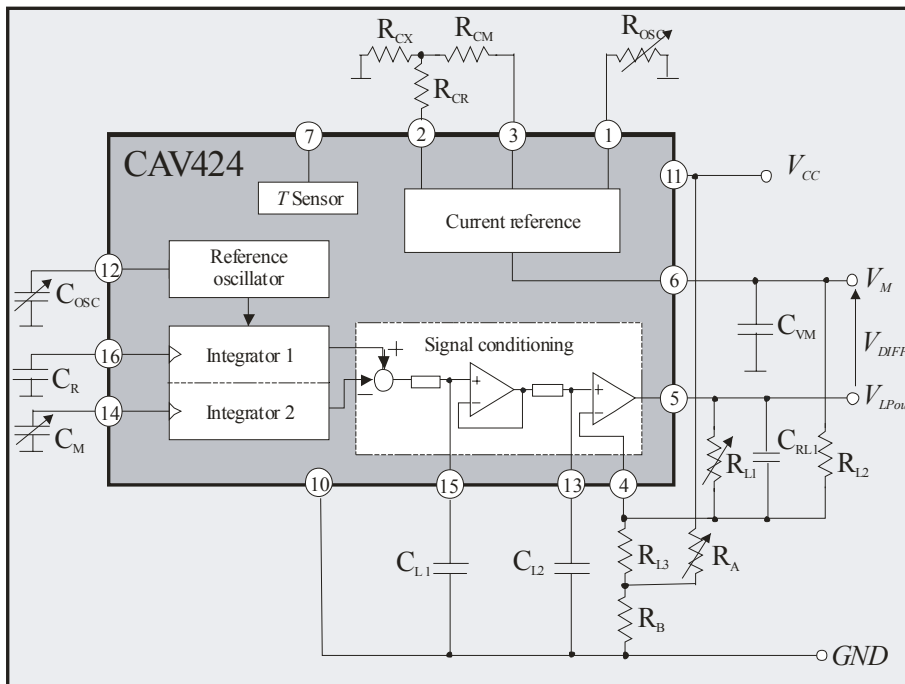

Figure 7: Functional diagram for CAV424 (with charging currents I_{CM} and I_{CR} constant)
* The equations apply to $R_{CX} = 0$ (see *Figures 7 and 8*). Should $R_{CX} \neq 0$ for the resistor due to better thermal coupling, alternative calculations are provided in the Excel spreadsheets *Kali1_cav424.exc* and *Kali2_cav424.xls*.
Figure 7 assumes that the charging currents I_{CM} and I_{CR} are constant. This means that with a change in the basic value of the measurement capacitance $C_{M,min}$ (as is the case when different objects are measured, for example) the oscillator frequency must be adjusted to the new measurement with the alternate $C_{M,min}$ value.